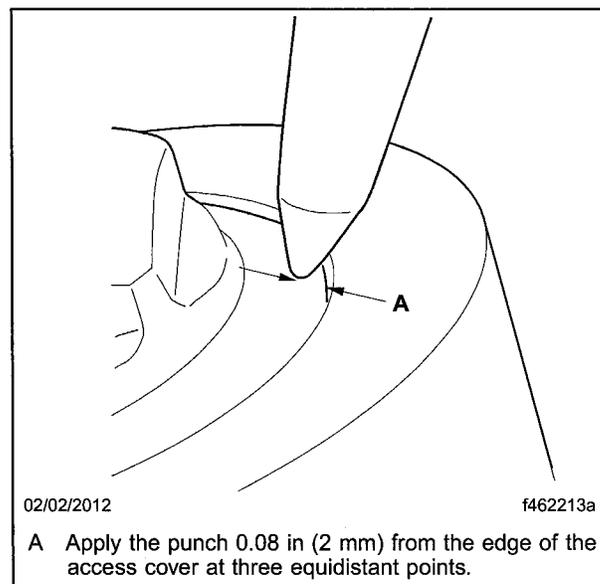

Fig. 7, Stake the Bearing Access Cover
6. Using a center punch, stake each punch mark that was made previously. See Fig. 7.